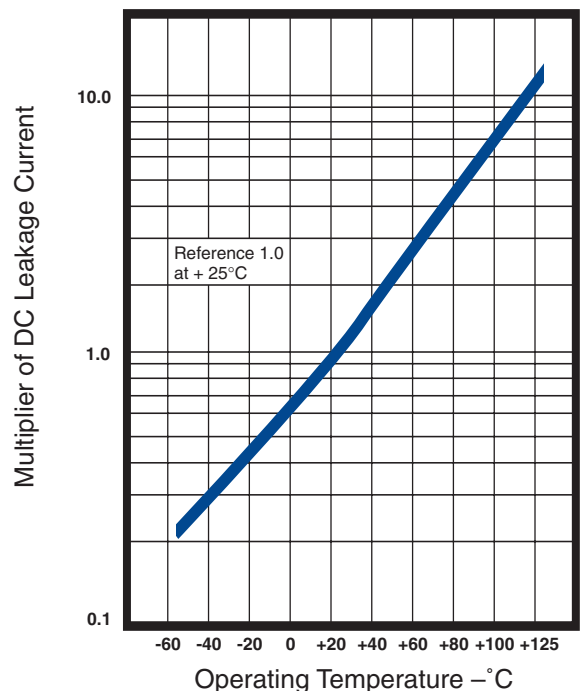
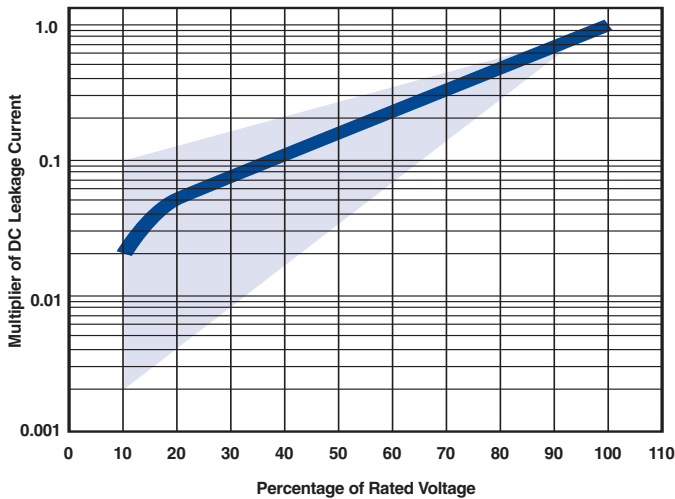

Fig. 3 Typical effect of temperature upon leakage current
Fig. 4 Typical effect of voltage upon leakage current
**DC Leakage Current** — The DC Leakage current limits of Table 1 for **T240** Series capacitors are the lowest generally specified in the solid tantalum industry. Even lower leakage currents are available on special order. Low leakage current, aside from its intrinsic value, is an indication of anode quality. DC leakage current as a function of temperature is represented by the typical curve in Figure 3, while similar information pertaining to leakage behavior with respect to voltage is contained in Figure 4.